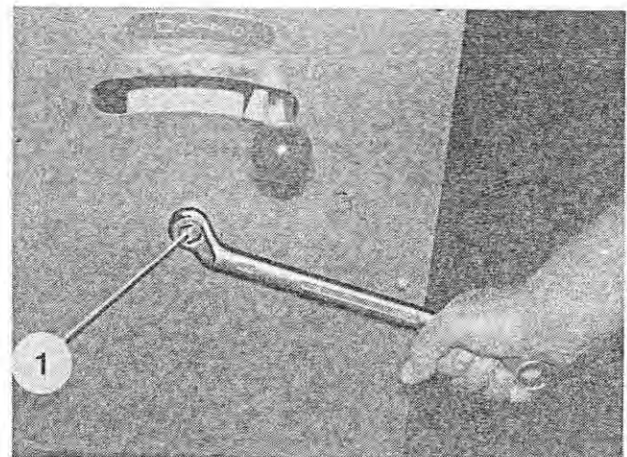

Fig. 192
2. Loosen the locking screw (Figure 192/1) a few turns.